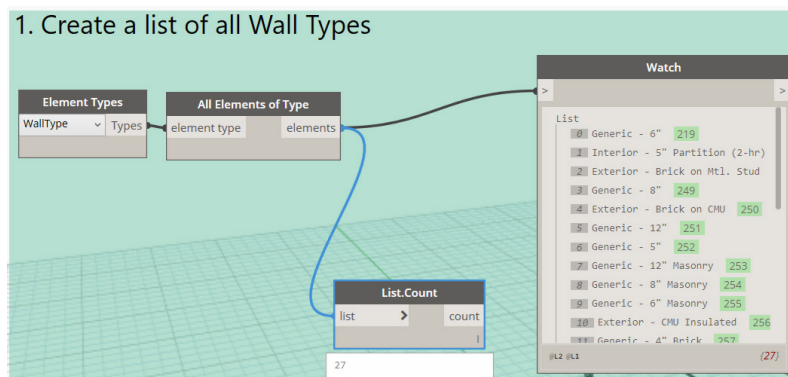

Figure 44
28. Wire them up as shown in Figure 44.